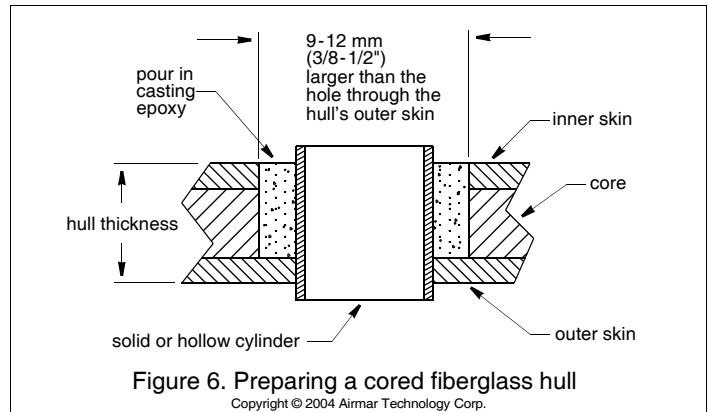

Figure 6. Preparing a cored fiberglass hull
2. Using a 51 mm or 2" hole saw, cut the hole from outside the hull through the *outer* skin only (see Figure 6).